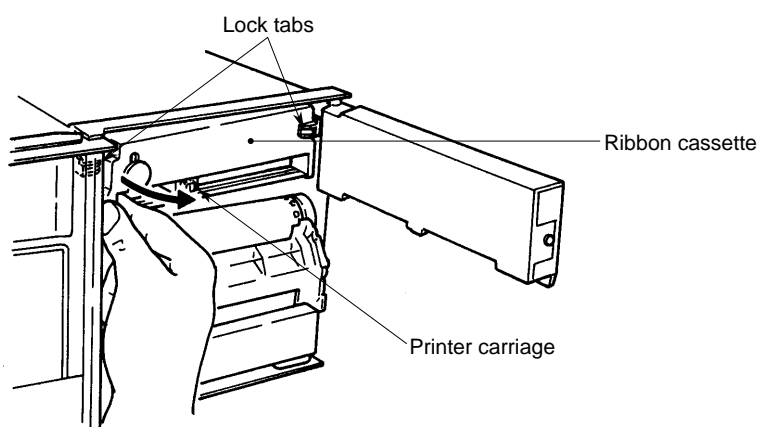

Figure 5.9
- 4 Press the left lock tab to the left and use the lower left part of the cassette as a handle to pull it out of the holder. See figure 5.9.